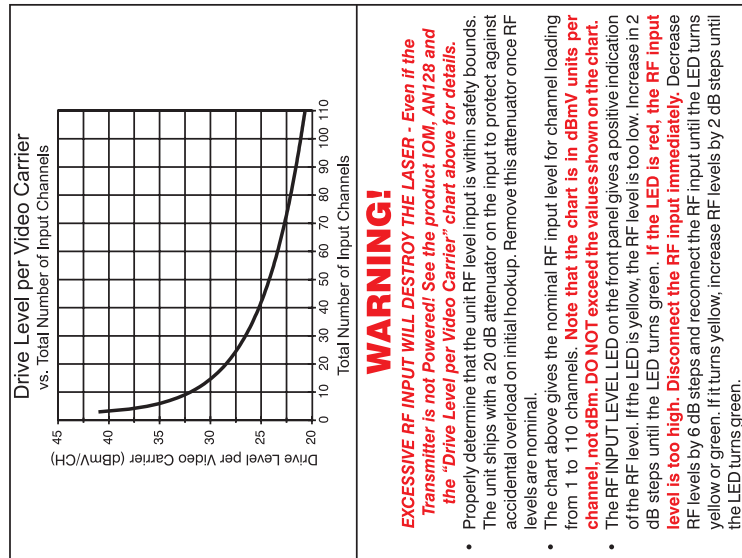

Figure 1.7 Top Label Used to Determine RF Input for Transmitter
- 7) Each transmitter has a label such as the one shown in Figure 1.7 that gives the RF input levels for the transmitter. The individual carrier levels should closely match each other to ensure consistent performance on all channels. In all cases, set the composite RF input level so that the RF INPUT LEVEL LED is green. The RF indicator LED only operates properly for rated channel loading and a flat input spectrum. To use the chart, look up the channel loading you will be presenting to the transmitter input and read off the drive level per video carrier. For instance, with 40-channel loading, each video carrier should be about +25.0 dBmV.
Excessive RF input to a fiber optic CATV transmitter **WILL** kill the laser even if the unit is not powered. Lasers can be destroyed by being overdriven for as little as one nanosecond ( $10^{-9}$  seconds). Because they can be destroyed so quickly, it is essentially impossible to design a circuit or "fuse" that will blow before the laser is destroyed. Therefore it is imperative that the RF level be within acceptable limits **BEFORE** the cable is attached to the transmitter. See the "Drive Level per Video Carrier" top label (see Figure 1.7) on the transmitter for the optimum drive levels, and follow the steps below.
See the warning label on top of the unit (Figure 1.7, page 6) for instructions on achieving the recommended RF input level.